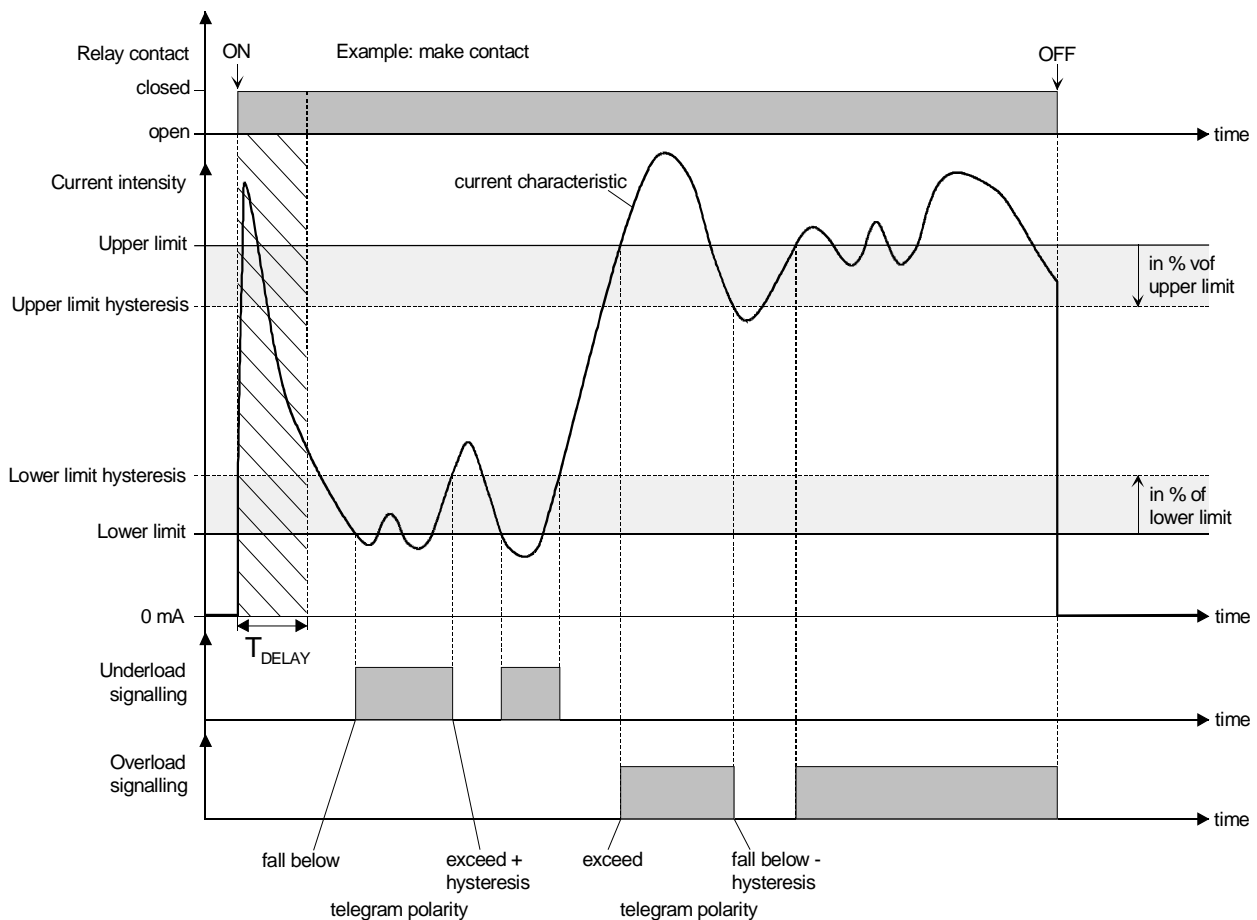

Fig. 17: Load monitoring with fixed load limits (exemplary current characteristic)
To increase noise immunity during reporting (suppression of small current fluctuations), a hysteresis can be separately specified for each current limit. The hystereses are parameterized in the ETS as a percentage of the current limits (cf. Figs. 17 & 18). For current measurements it is moreover possible to parameterize a delay (T_{DELAY}) after a switching event (change from break to make) so that load monitoring is delayed and a debouncing effect for switch-on currents achieved. No current measurement is performed during this delay so that the current intensity value for this time is set to "0".
- Monitoring can be based on fixed load limits parameterized in the ETS. The load limits can be freely defined independent of the load current (cf. Fig. 17). This method is suitable, for instance, for fixed and permanent loads.
- ⓘ The message telegrams are transmitted to the bus as soon as the currents are above or below the limit values or the hystereses (cf. Figs. 17 + 18). The actuator transmits message telegrams with the parameterized polarity after the end of the "Delay after bus voltage return" only if the currents – after return of bus voltage or after ETS programming – are below or above the limits. In all other cases, no message telegrams will be sent after a reset.